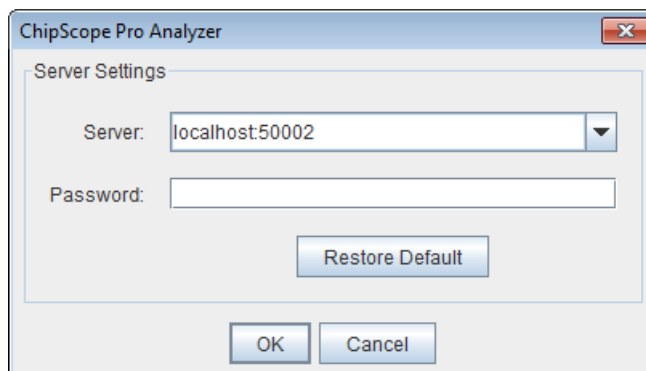

Figure 5-5: Changing the ChipScope Pro Analyzer Server Host Settings
5. In the ChipScope Pro Analyzer tool, select **JTAG Chain>Server Host Setting**. Change the server to **localhost:50002** (see Figure 5-5)